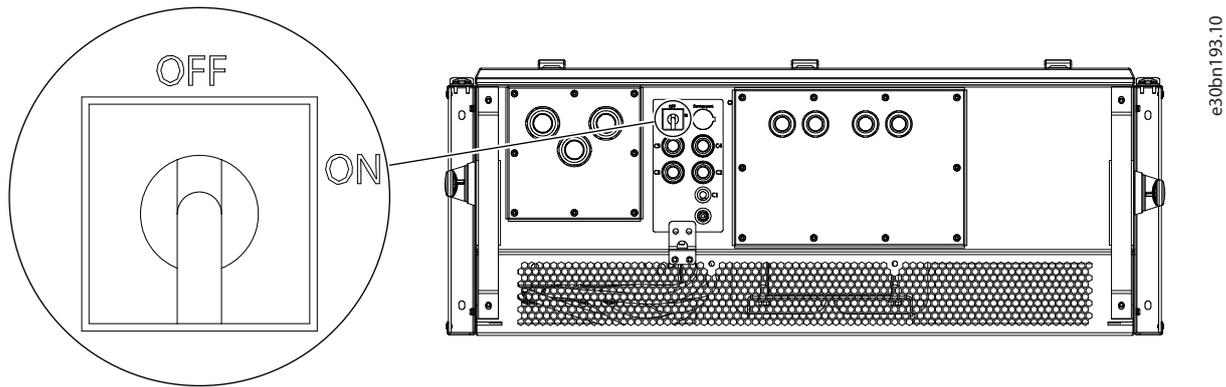

Figure 8: Location of the ON/OFF Switch
The ON/OFF switch is located on the bottom plate of the connection unit (CU). See Figure 8.